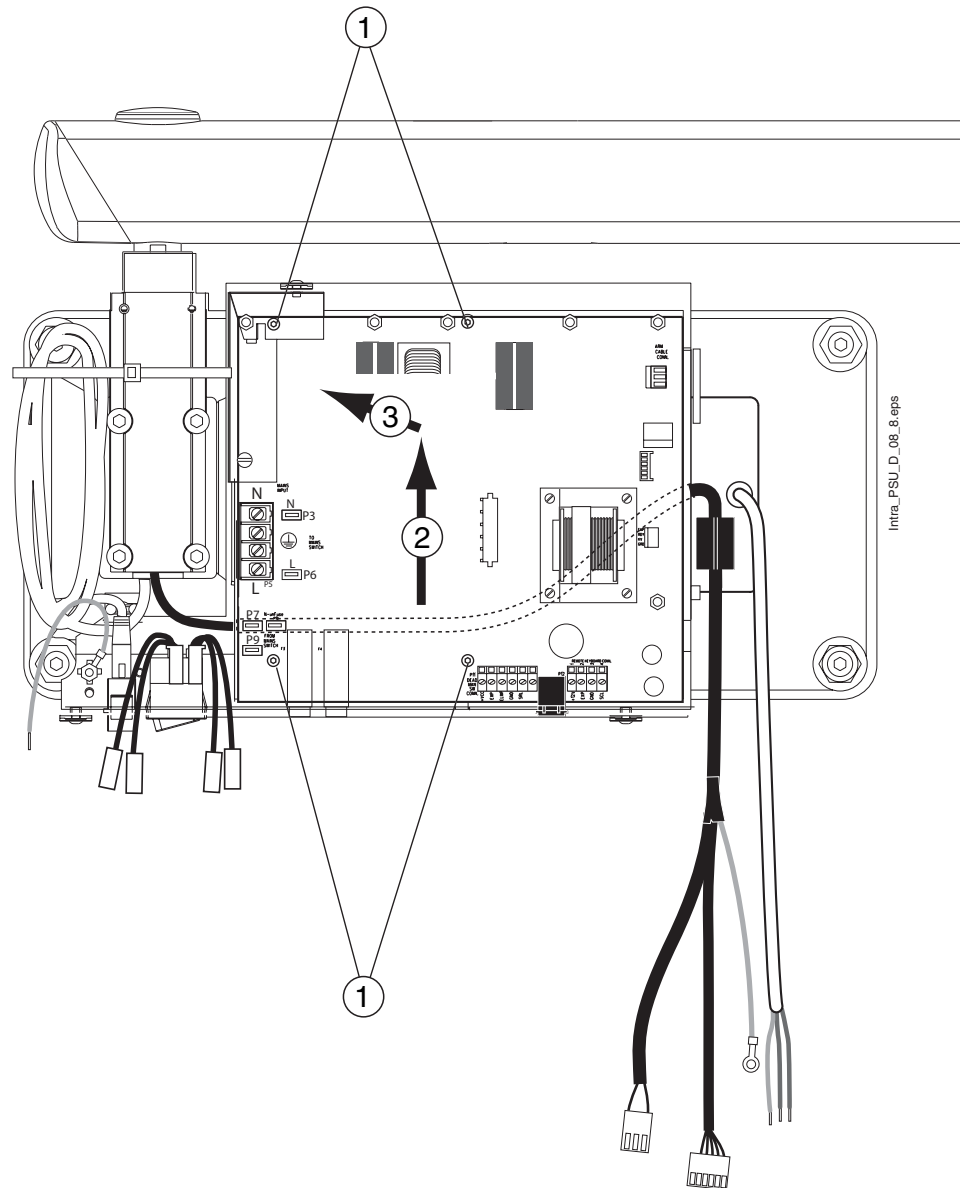

Figure 14
4. Loosen the four M4x8 ISO 7380 screws of the generator assembly frame (figure 14, 1). Lift the generator assembly upwards (figure 14, 2). The generator assembly can now be lifted away from the wall adapter (figure 14, 3).